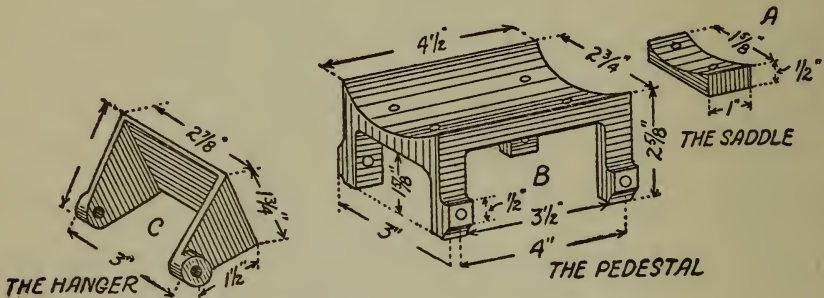

Fig. 56. The Saddle Pedestal and Hanger
*The Saddle, Pedestal and Hanger.*—The next thing to do is to make the patterns for the *cylinder saddle, the driving wheel pedestal and the hanger* for the trailing wheels. These are shown at A, B and C in Fig. 56 and the dimensions are